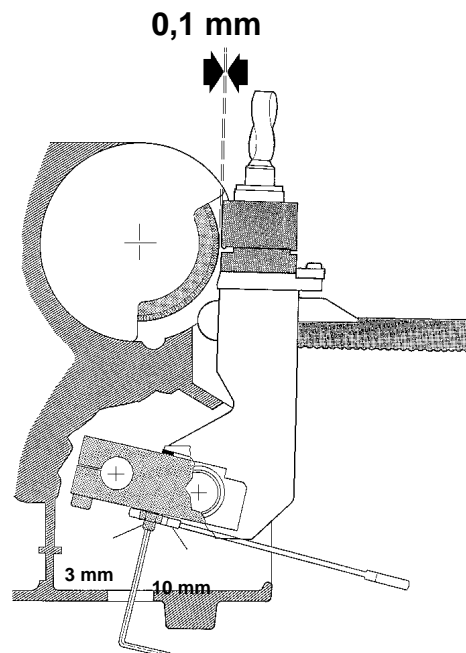

Fig. 23
- 2) Release the carriage and raise (against the cutting tool) at the end of run (fig.23).